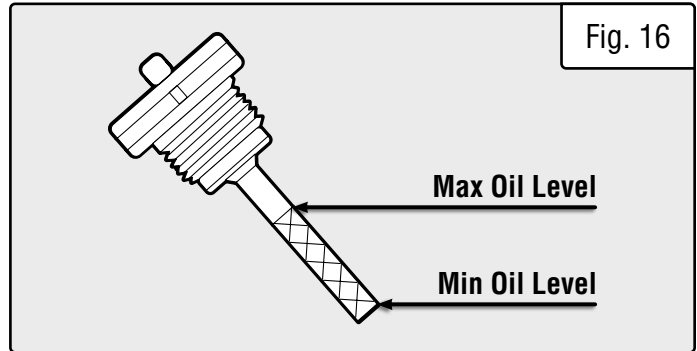

Fig. 16
2. Clean around oil fill. Remove dipstick and wipe the dipstick with a clean rag. Insert the dipstick into the oil fill opening without screwing in. Remove the dipstick to check the oil mark. Add oil if the oil mark covers less than one half of the dipstick. (Fig. 16)